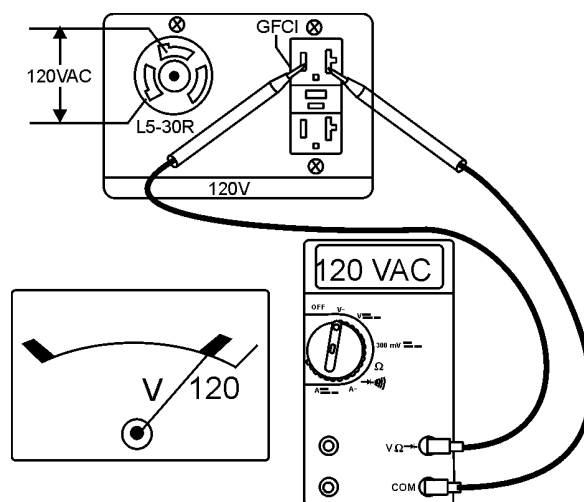

Figure 19. 120 V and GFCI Receptacles
- Read the **voltmeter** on the front panel of the generators (Figure 19) and verify that 120 VAC is present at the 120V twist-lock and GFCI duplex receptacles. For additional verification of voltage, an external voltmeter can be used to measure the output voltage as shown in Figure 19.